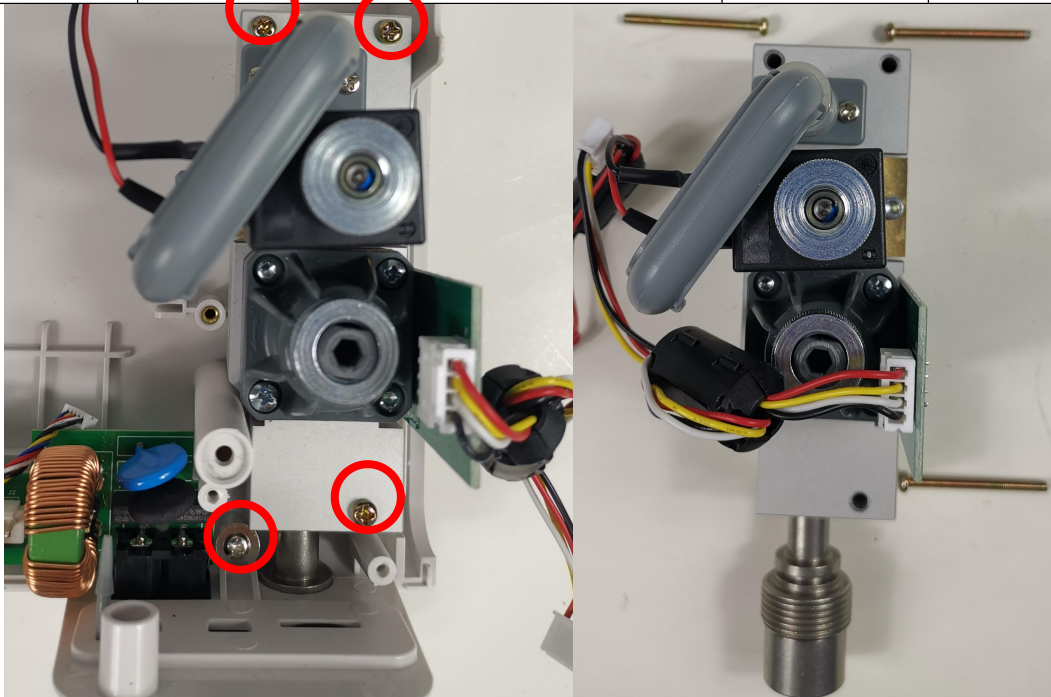

Figure 3-5-2
② Use a Phillips screwdriver to remove the 4 screws in the red circle in Figure 3-5-2, and take out the back cover and proportional valve.